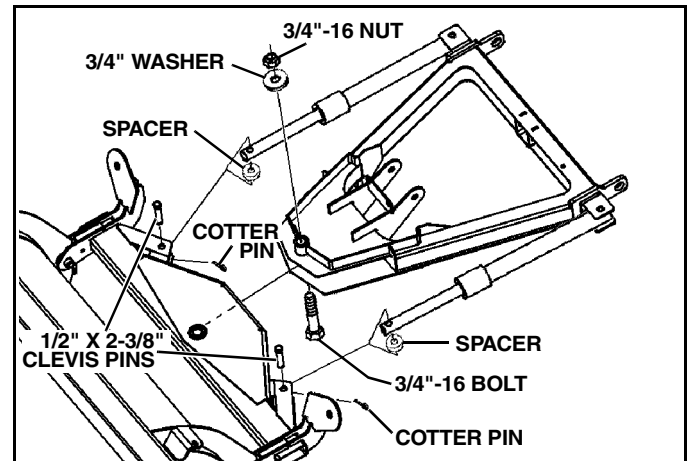
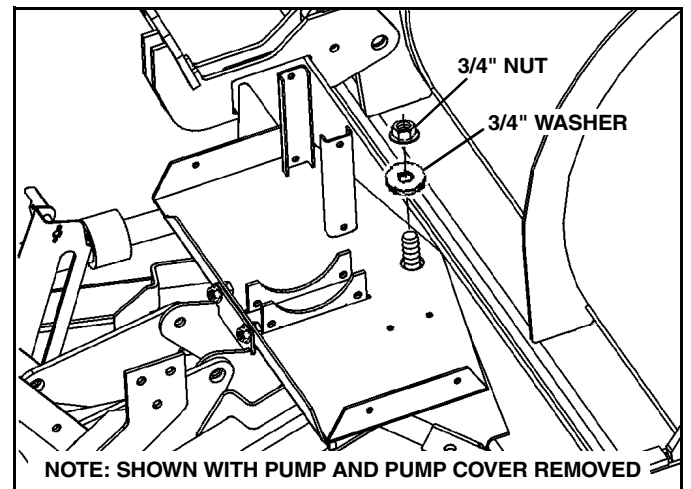

Figure 1-8
Figure 1-9
11. Remove 3/4" lock nut, washer and bolt. Slide swing frame into A-frame. Replace 3/4" bolt, washer and lock nut. Tighten hardware. (See Figure 1-8) and (See Figure 1-9).
12. Remove cotter pins, clevis pins and spacers from rod end of cylinders. Extend cylinders using plow control to align holes in cylinder rod and swing frame. Replace spacers, clevis pins and cotter pins, making sure that spacer is on bottom of rod. (See Figure 1-8).